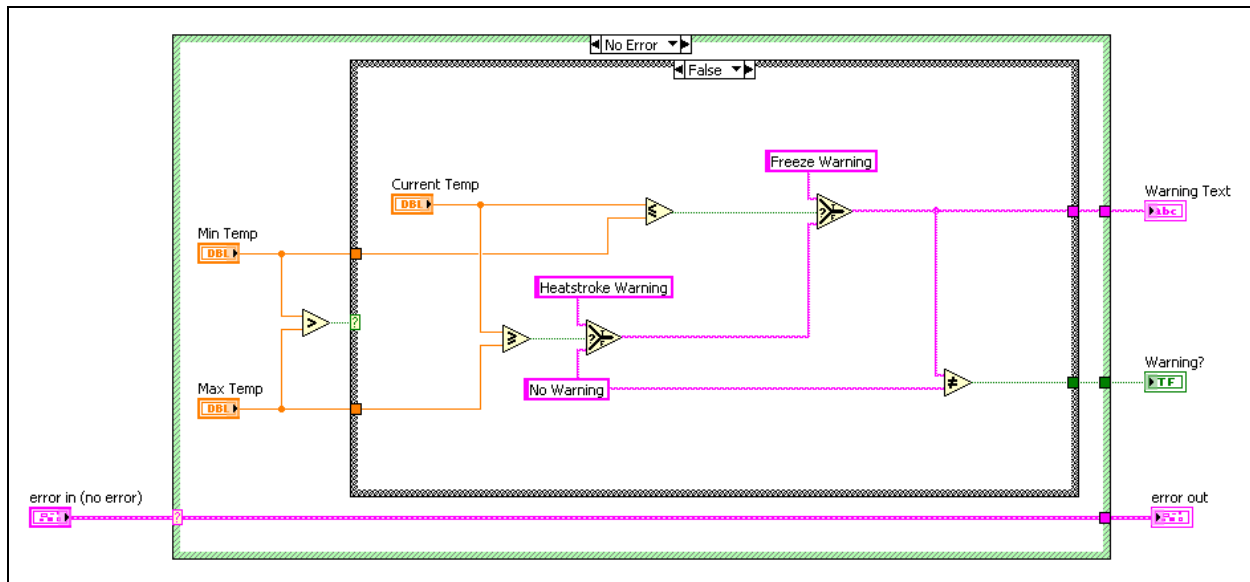

Figure 6-9. No Error Case of Determine Warnings VI
- Surround the block diagram code with a Case structure as shown in Figure 6-9. Leave the Warning Text and Warning? indicators outside of the Case structure.
- Wire the error cluster through the Case structure to the **error out** terminal as shown in Figure 6-9.